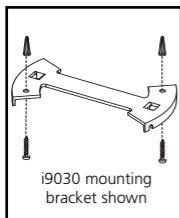

FIGURE 5
3. After selecting the proper smoke alarm location as described in section 1, attach the mounting plate to the ceiling as shown in FIGURE 5 and FIGURE 5A. For wall mounting see FIGURE 6 and FIGURE 6A. Place mounting plate on the wall as described in the mounting illustrations. Use the screws and anchors provided to secure the mounting plate (use 3/16" drill bit for anchor holes).